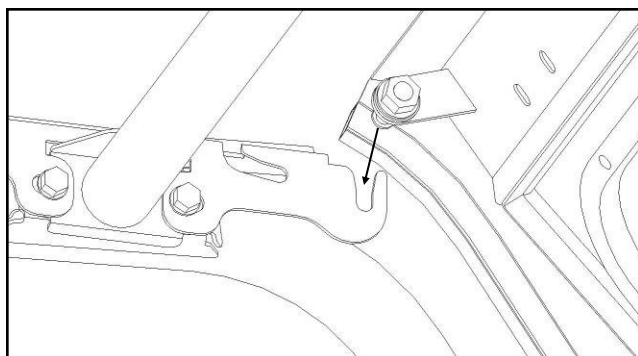
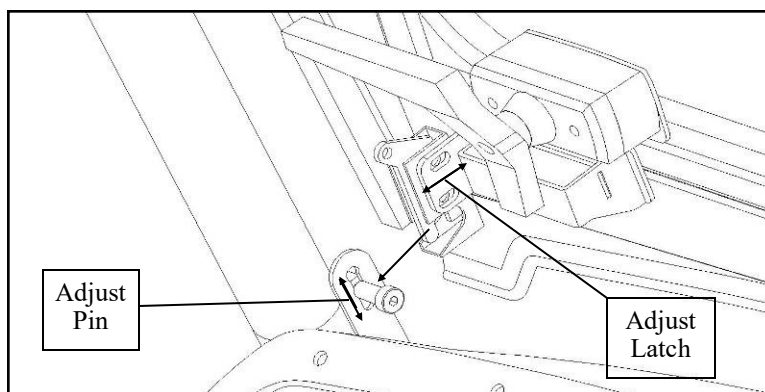

Figure 3.1a View of driver's side top uninstalled
Figure 3.1c View of driver's side bottom uninstalled
3.1 Slide the two pins at the top of the windshield into the slots at the front of the top mounts. (Figures 3.1a and 3.1b) Fasten the bottom latches onto the pins on the front mount as in figure 3.1c. You should hear the latch make two clicks as it is fastened. Adjust the pins in the slots using a 3/16" allen and a 1/2" wrench so that the two pins at the top of the windshield are sitting all the way down in the slots on the top mount. The latches can also be adjusted forward and backwards to achieve a tighter seal to the hood. Use a 7/16" wrench to adjust the latch bolts.